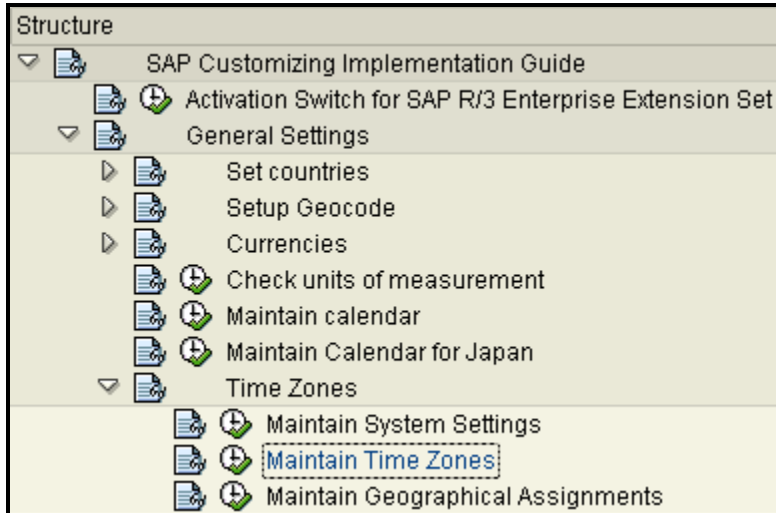

Figure 1: Maintain Time Zone
A) Time Zones (standard SAP setting should suffice here—see Figure 1)